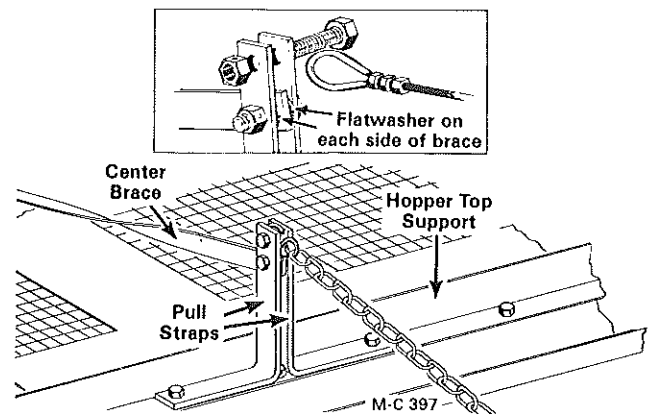

Figure 4
5. Remove the two center capscrews in the hopper top support and install the pull straps, see Figure 4.
6. Place the center brace between the pull straps and bolt it to the lower hole with a  $\frac{5}{16}$ -18 x  $1\frac{1}{4}$ " capscrew, flatwashers and locknut as shown in Figure 4. The top hole will be used to attach the pull cable.
3. Put a  $\frac{5}{16}$ -18 x  $1\frac{1}{4}$ " hex-head capscrew, and two way locknut in the top hole in the Pull Straps, see Figure 4. Place the "S" hook end of the cable over the  $\frac{5}{16}$ " capscrew.